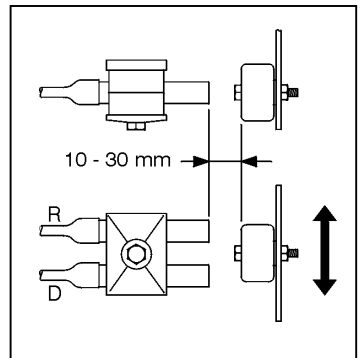

Figure 10
First establish with the operator the most convenient weighing position to suit the loading operation. The sensor and magnet must be arranged so that the magnet is opposite the sensor face at the weighing position (fig 10). The sensor cables are tagged to identify the sensors - 'R' for the reference sensor and 'D' for the direction sensor.
- (b) the magnet should pass the end of the sensor, 10mm to 30mm away from it in the orientation shown (fig. 10).